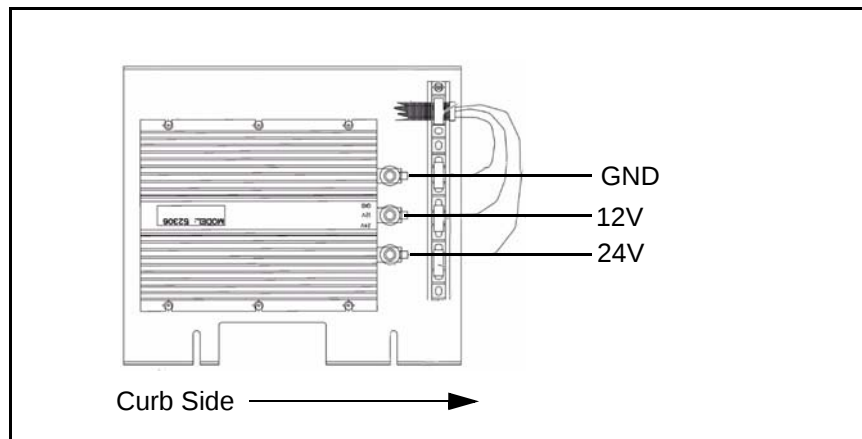

Figure 1-11 Orion NG Sure Power Equalizer Cable Configuration
2. Install equalizer connections to the referenced marked positions and torque to 100 in.lbs (12.4 NM). **See Figure 1-11**